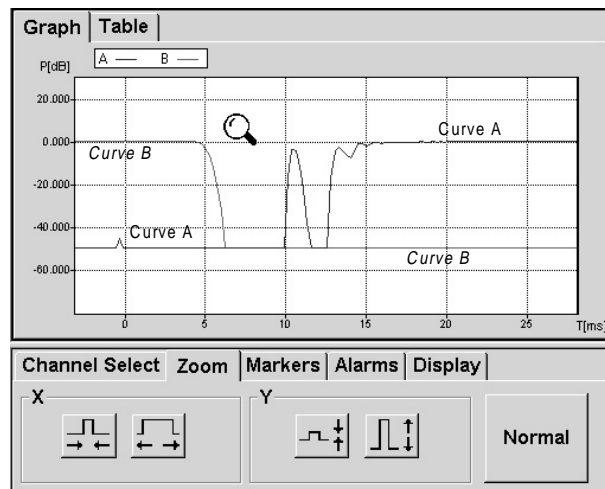

Figure 8-8. Transition from Channel B to Channel A
10. The status bar will display “*Drawing curves*” until the switch transition is totally acquired on screen (see Figure 8-8).